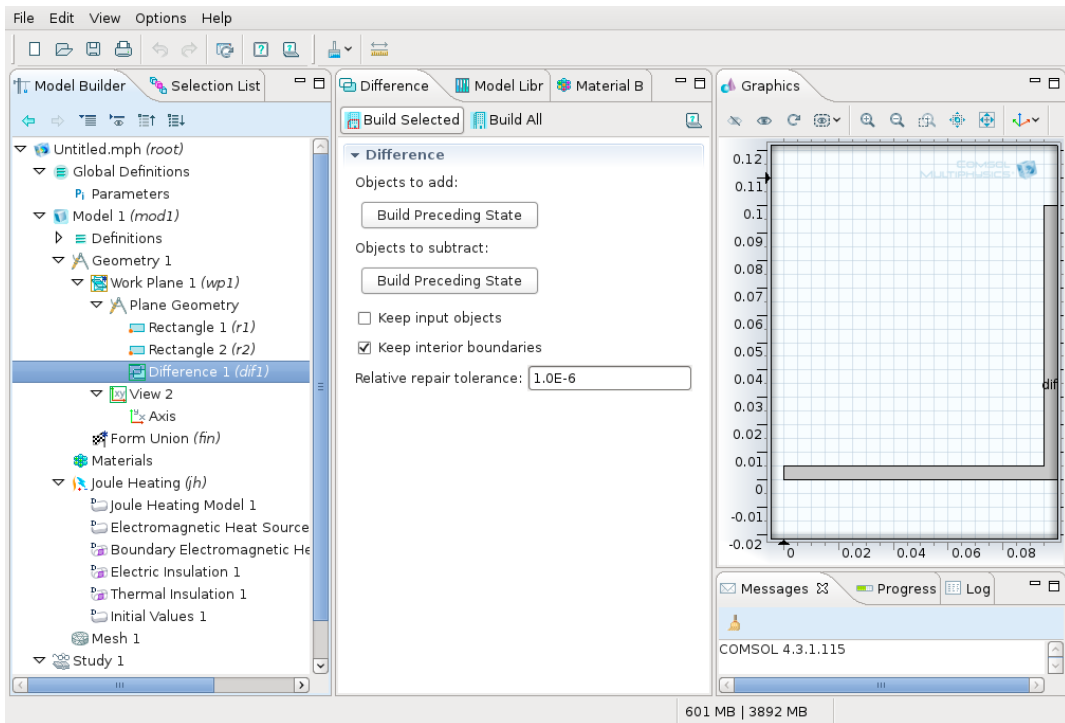

Figure 14: The difference.
- The last step is to click the **Build Selected** button (Fig. 14).